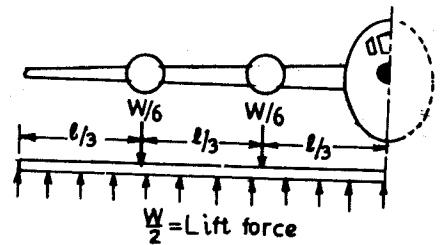

Fig. 52
97. Fig. 52 shows the wing of a jet-liner of total weight W . It can be assumed to be a cantilever beam as shown. If M.I. be assumed to be constant ($= I$), then deflection of end A relative to cabin is equal to